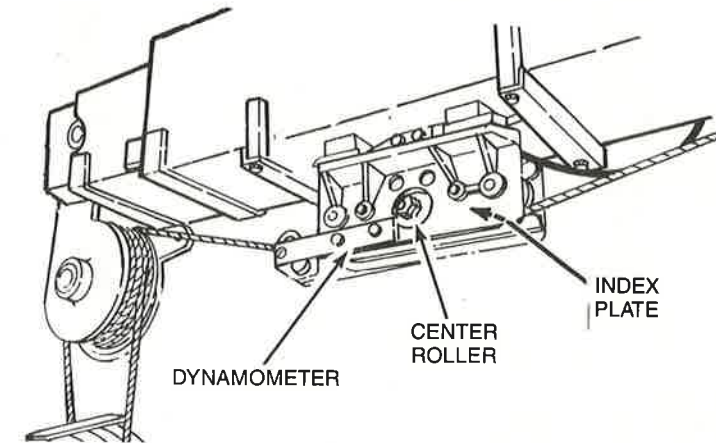

Figure 23. Dynamometer
- a. On the shaft of the center roller, loosen the locknut that is on the side opposite the index plate. See Figure 23. Also loosen the two locknuts on the end of the shaft near the index plate.